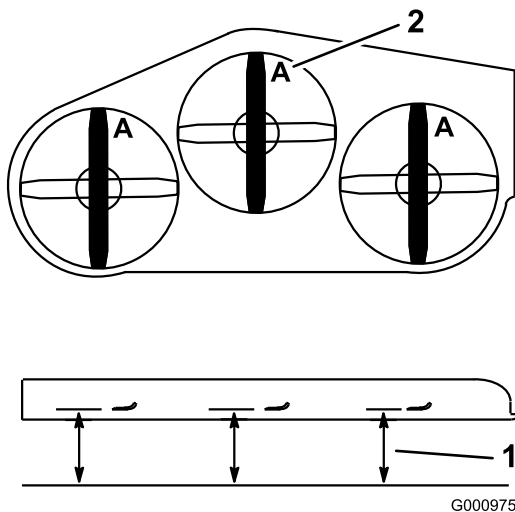
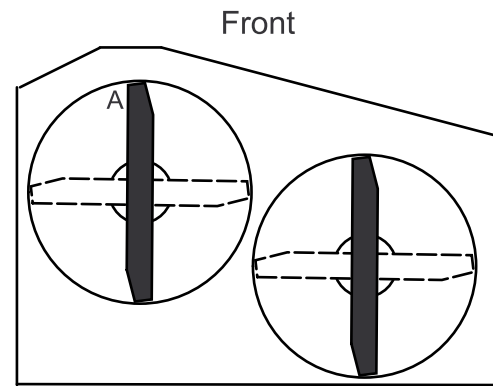

Figure 78
Figure 79
3. With the machine on level surface, position one blade front-to-rear. Measure at **A** and from level surface to the cutting edge of the blade tips (Figure 78). For 36 inch mower decks use Figure 79.